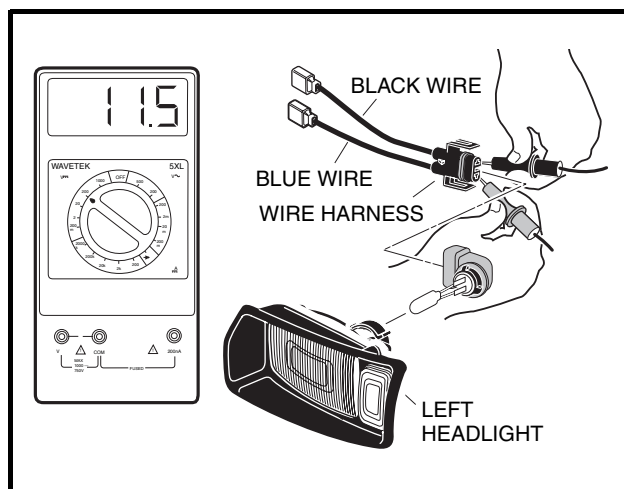

Figure 11-57 Check Voltage to Headlight Socket
3. Remove the wiring harness from the headlight (**Figure 11-57, Page 11-47**).